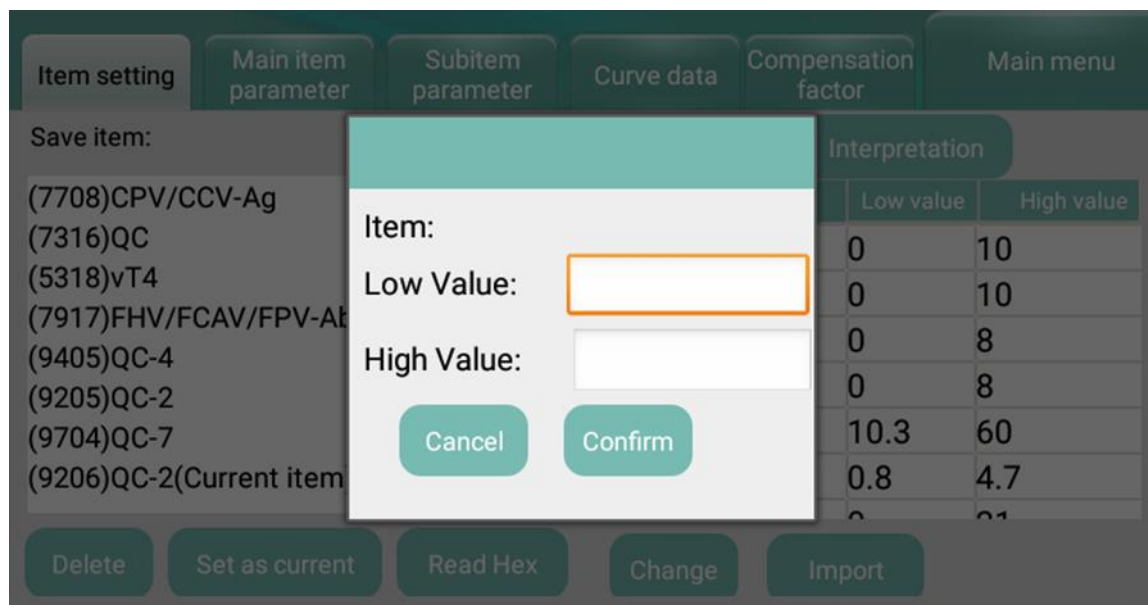

Figure 4.5.2
2. The user can edit reference ranges as shown in Figure 4.5.2.